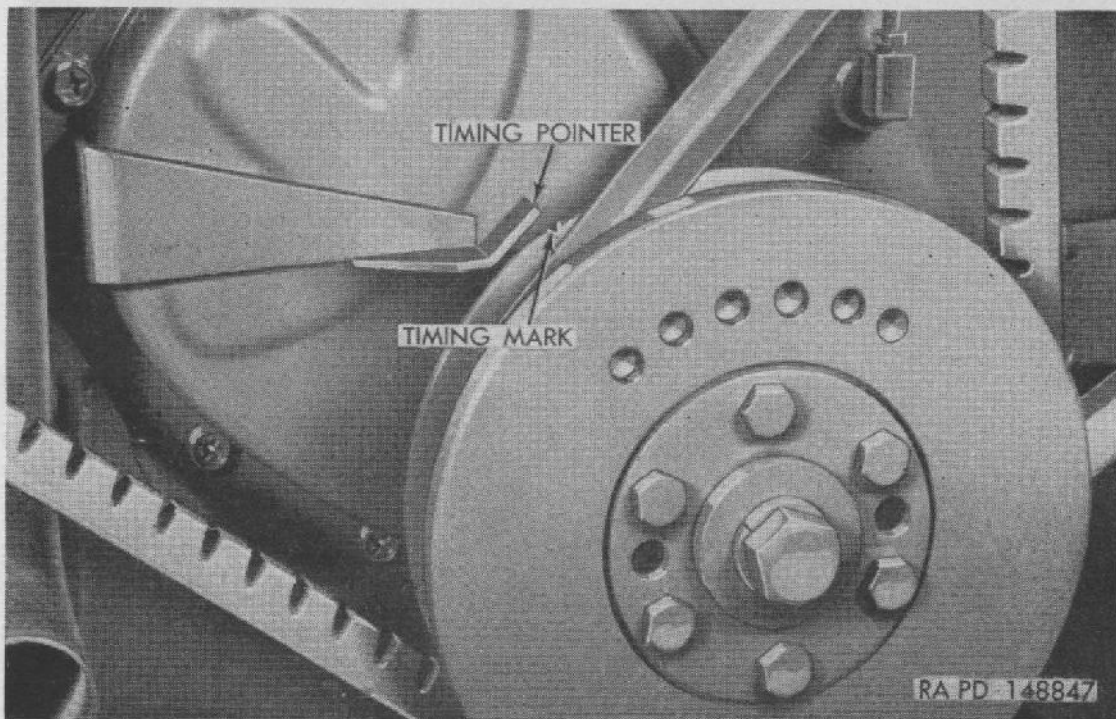
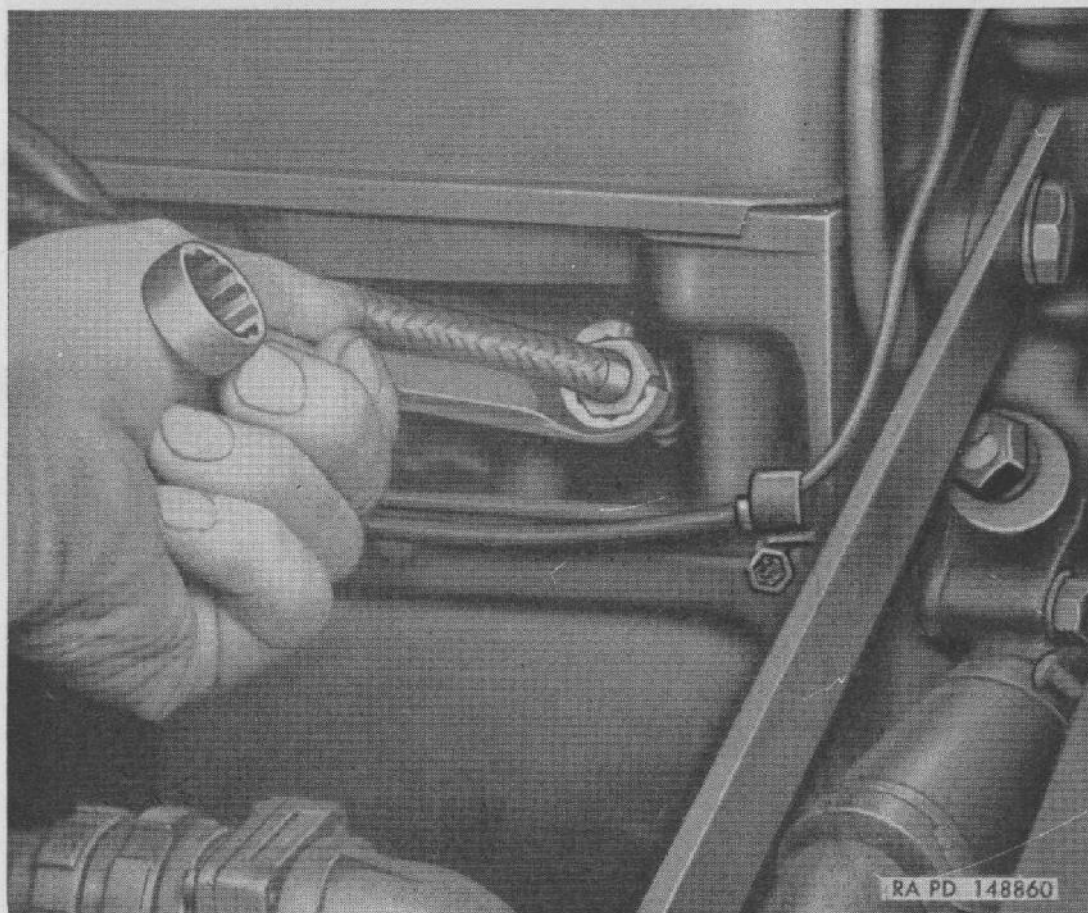

Figure 46. Ignition timing mark and pointer.
Figure 53. Disconnecting cable from spark plug using wrench 41-W-3297-760.
- (2) Remove eight screws attaching cover to housing. Remove cover. Clean and adjust or replace distributor points if necessary (par. 108).
- (3) Do not turn ignition switch on. Slowly turn engine over by intermittently operating starter until timing mark (notch on crankshaft pulley) is alined with timing pointer on timing gear cover (fig. 46). If rotor segment points toward mark indicating No. 1 spark plug cable location, proceed with (4) below. If rotor segment points to No. 6 spark plug cable location, turn engine over one complete revolution until rotor points to No. 1 position with timing mark and pointer alined.
- (4) Install distributor cover, making sure gasket is in good condition and in place. Tighten cover attaching screws.
- (5) Remove No. 1 spark plug cable from spark plug, using spark plug conduit nut wrench 41-W-3297-760 (fig. 53). Thread adapter onto spark plug; then connect No. 1 spark plug cable to adapter.
- (6) Connect one terminal of timing light to adapter and connect other terminal to ground.
- (7) Start engine and run at a slow idle. Direct beam of timing light toward upper edge of timing pointer. Timing light flashes make timing mark on crankshaft pulley appear stationary. Loosen distributor clamp bolts
- (1) Note position of No. 1 spark plug cable on distributor cover and scribe a mark on distributor housing at this point.
- (2) Disconnect spark plug cables from distributor cover and remove cover. Disconnect primary circuit cable from front side of distributor housing.
- (3) Turn engine over by intermittently operating starter until notch on crankshaft pulley is aligned with pointer (fig. 46) and rotor segment is pointing to mark on housing indicating No. 1 spark plug cable location.
to turn engine slowly until notch on crankshaft pulley is alined with pointer (fig. 46). Engine is then in No. 1 firing position and distributor may be inserted as directed in (1) above.
- (1) Disconnect cable from spark plug, using spark plug conduit nut wrench 41-W-3297-760 (fig. 53). Pull cable out of plug end.
- (2) Insert spring in end of cable into spark plug shell, press cable in, then thread cable nut onto spark plug shell. Tighten cable nut handtight, using wrench 41-W-3297-760 (fig. 53). Do not use additional leverage on wrench.